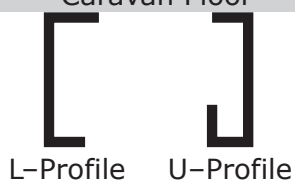

Fig.16A
Position one of the chassis plates (37) (these are left and right handed; please refer to Fig.16 and Fig 16A. for guidance) on the inside of the chassis at the correct height to attach the mover cross bar to. Ensure the lip on the plate faces inwards towards the centre of the caravan. Mark the holes, drill and bolt to the chassis using the three 70mm bolts per plate. Measure the hole position for the other side ensuring that the position is identical for both plates in relation to the chassis and tyres.
Loosely fit the two clamping assemblies to the chassis plate (see Fig.16/Fig.16A)) and attach using the bolts, nuts and washers (16,17,18) provided in the installation kit. Nuts must be no more than finger-tight.